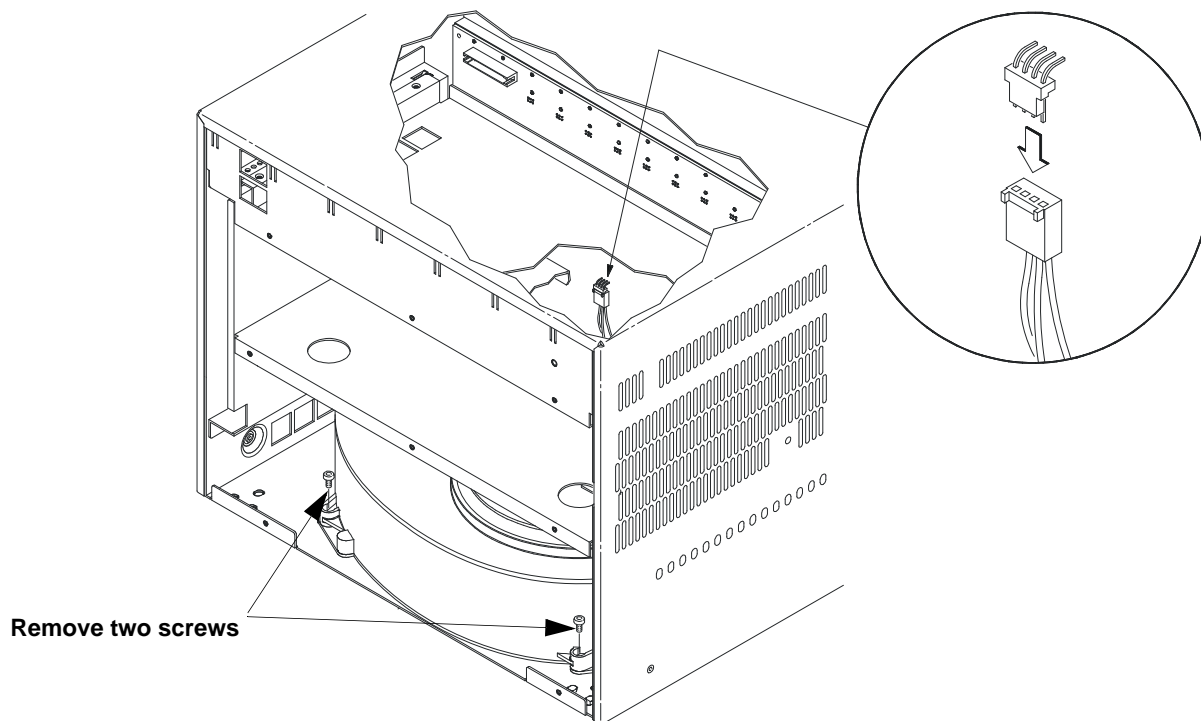

Figure 3-6. Removing / Installing the Impeller
3. Disconnect the impeller wires from the backplane by gently pulling down on the wire housing (Figure 3-6). Note the position of the connector for re-installation.
5. Lift the impeller assembly off the screw locators and gently pull the impeller assembly out from the mainframe (Figure 3-6).